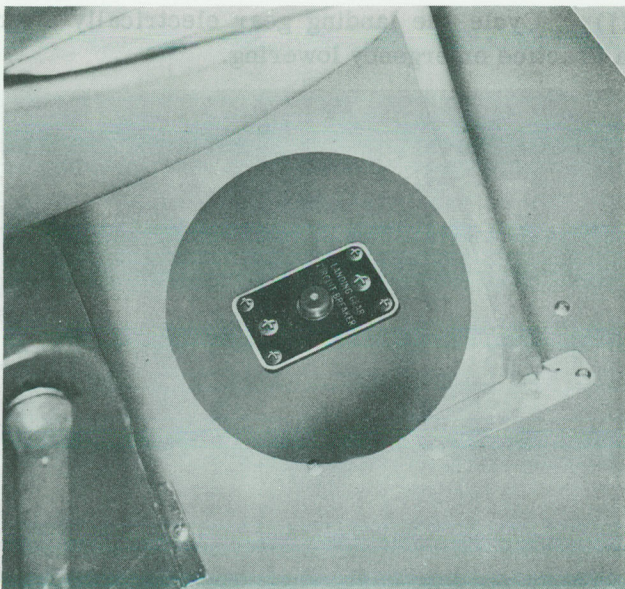

Figure 3-1-1 Landing-Gear
- (a) Reset the landing-gear motor circuit breaker, located under the pilot's seat (see Figure 3-1-1), and the landing-gear control circuit breaker, located on left sub-panel.